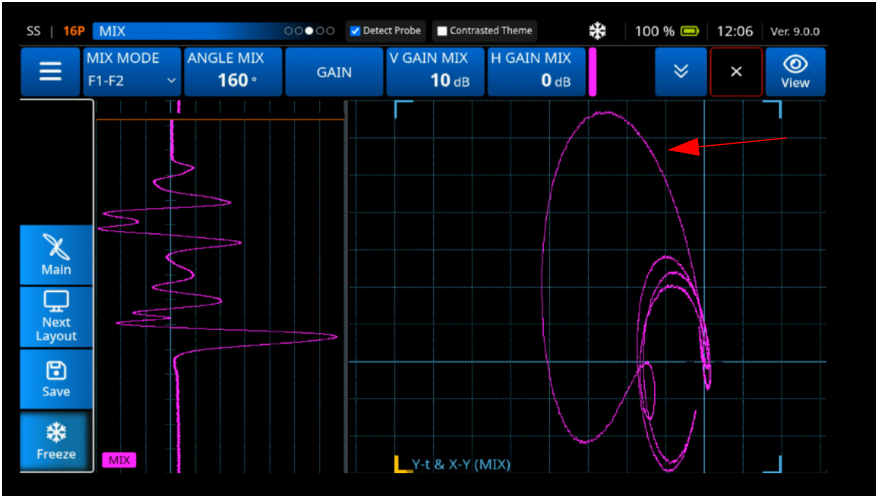

Figure 3-101 Confirm Notch C Amplitude
- Verify that **Notch C** amplitude is close to **7 Vertical** divisions (See Figure 3-101 on page 117).